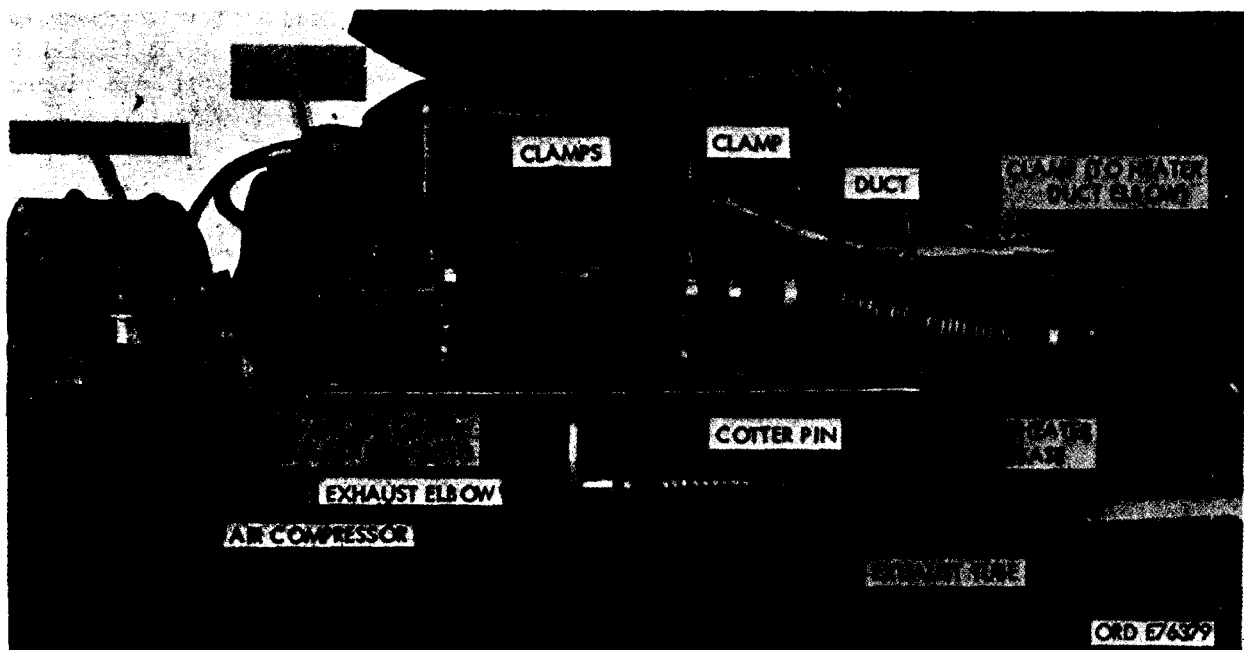
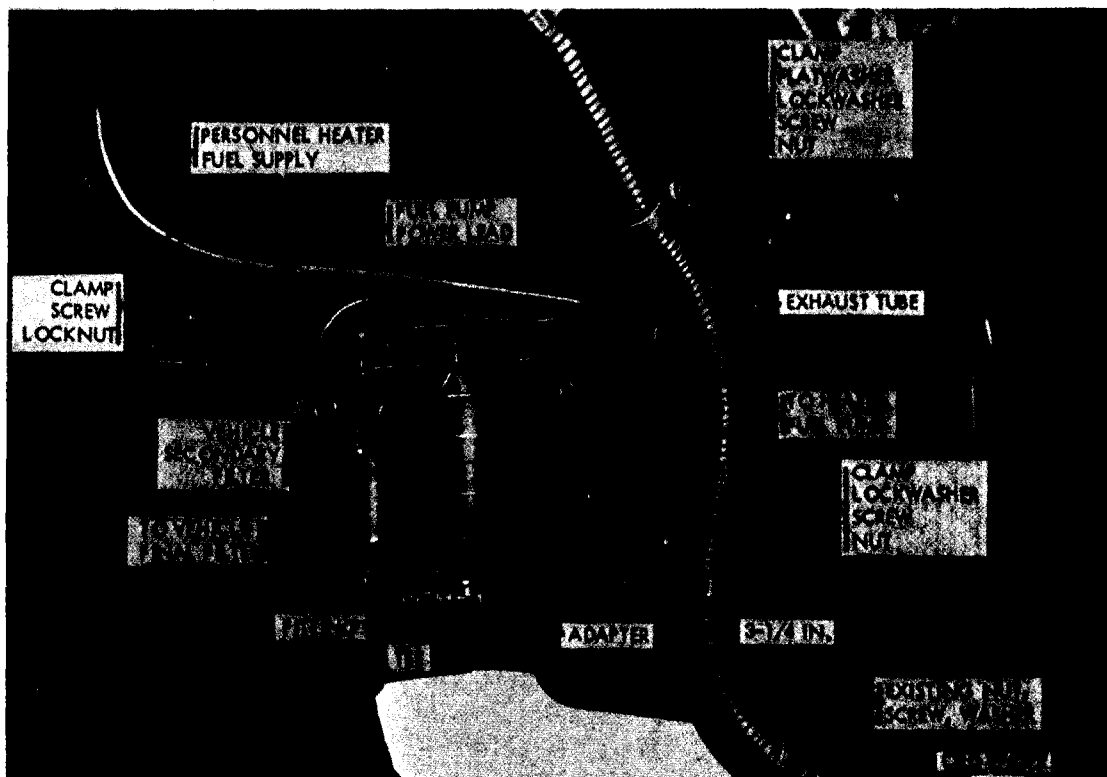
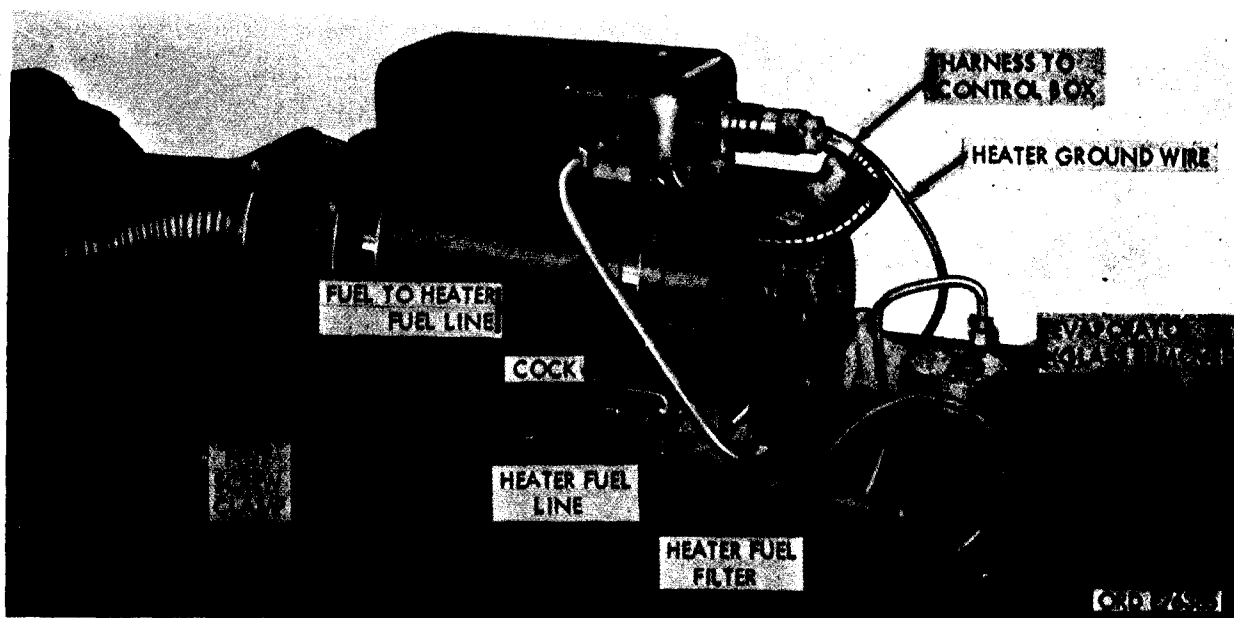

Figure 682. Installing personnel heater.
Figure 683. Attaching heater exhaust hose to fender.
Figure 686. Heater fuel lines at heater.
- (1) Remove the 4- $\frac{1}{8}$ inch knockout plug from the left side of firewall (Fig. 682).
- (2) Remove and retain the two screws and nuts and four lockwashers which came with the heater duct elbow.
- (4) Attach the 14 inch long duct 8711056 to the heater duct elbow (inside engine compartment) (fig. 682). Attach the other end to heater duct (fig. 682). Secure with clamp MS 96906-35842-4 at each end.
- (4) Drill 5/32 dia. hole through tube and elbow about 1 inch from edge of tube and insert ¼ x 3 cotter pin MS 96906-24665-363.
- (5) Place four clamps MS 96906-21333-99 around exhaust tube 7986268 approximately as indicated in Figure 683. Attach
upper 2 clamps to existing holes in fender reinforcement (Fig. 683) using ¼-28x½ screw MS 96906-35292-3, large flat washer MS 96906-35333-27, lockwasher MS 96906-27183-14 and nut MS 96906-51922-5.
- (6) Drill a 5/32 dia. hole in other arm of same fender reinforcement approximately 3-¼ inches from bottom of reinforcement (Fig. 683) and attach clamp to fender reinforcement with ¼ -28x 1 screw MS 96906-
- (3) Attach one adapter MS 39206-4 to other arm of tee installed in (1) above and attach other adapter MS 39206-4 to lower opening of fuel pump.
- (4) Attach filter bracket 10931990 to forward, inner side of heater mounting base (Fig. 686) using two 10-32x3/4 screws (MS 35207-265) and nuts 503209.
- (5) Attach filter MS 51085-1 to bracket installed in (4) above using two 10-32x1-3/4 screws MS 35207-270 and nuts 503209.
- (6) Insert nipple 121830 into heater fuel inlet and screw adapter MS 39203-4 onto it (Fig. 686).
- (7) Attach elbow MS 39202-4 to forward opening of heater filter.
- (8) Attach cock 543852 to rear opening of heater filter and attach adapter MS 39206-4 to cock.
- (9) Loosen tube from bottom of vehicle secondary filter and remove existing elbow. Discard elbow (Fig. 683).
- (10) At the opening of filter (9) above, screw on tee 444120, with one arm pointing in direction of elbow removed in (9) above.
- (11) Insert adapter MS 39206-6 into rearward arm of tee,
- (12) Insert fitting 137409 into forward arm of tee, and reattach vehicle secondary filter to final filter tubing disconnected in (9) above.
- (13) Attach pump-to-secondary filter tube.
- (14) Attach fuel pump-to-heater tubing.
- (a) Place $\frac{1}{4}$ tubing 8689207 (88 in. long) along top of tool compartment and snap it into oblong hole in top cut in *a*(5) above.
- (b) Attach tubing to arm of tee in upper part of pump (Fig. 676); run other end of tubing over vehicle filters and up through opening in inner fender (Fig. 683) and along side inner edge of heater mounting base and into cock inserted into heater filter in (8) above. Attach end of tubing to cock.
- (c) Clamp tubing at heater base (Fig. 686), fender opening (Fig. 683) and atop tool compartment (Fig. 675), using clamps
- (15) Attach filter to heater tube.
- (b) Attach tube to elbow installed in filter (7) above; attach other end to nipple and adapter installed in (6) above.
p. Installation of Alcohol Evaporator (Figure 686).
- (1) Attach alcohol evaporator to the bracket welded to heater mounting base using 3 screws and locknuts provided with evaporator.
- (2) Remove pipe plug in top side of air compressor intake body (Fig. 682) and replace with elbow 444038. Discard plug.
- (3) Attach $\frac{1}{8}$ tubing to fitting on evaporator;